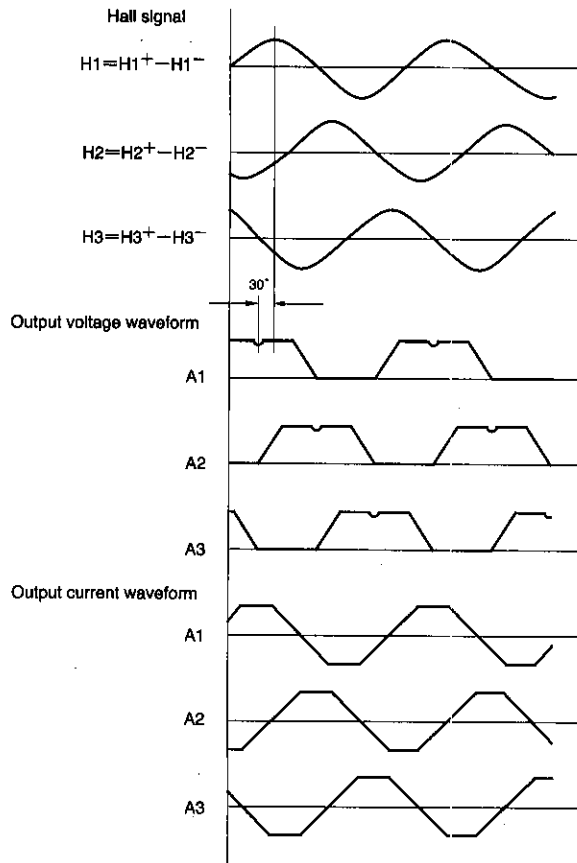

Fig. 5
(1) The 3-phase Hall signal is amplified in the hall amplifiers and sent to the matrix section, where the signal is further amplified and combined. After the signal is converted to a current in the amplitude control circuit, the current is supplied to the output driver, which then provides a motor drive current. The phases of the Hall input signal, output voltage, and output current are shown in Fig. 5.